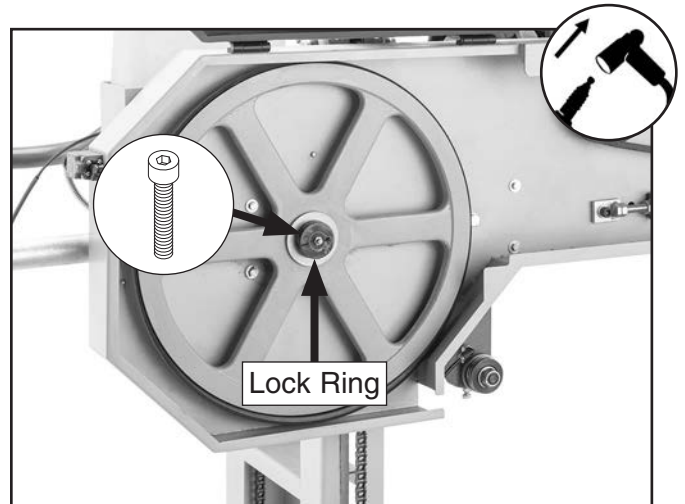

Figure 82. Location of blade wheel lock ring cap screw.
- To remove blade wheel, loosen cap screw shown in **Figure 82**, then remove lock ring, flat washer, and blade wheel.